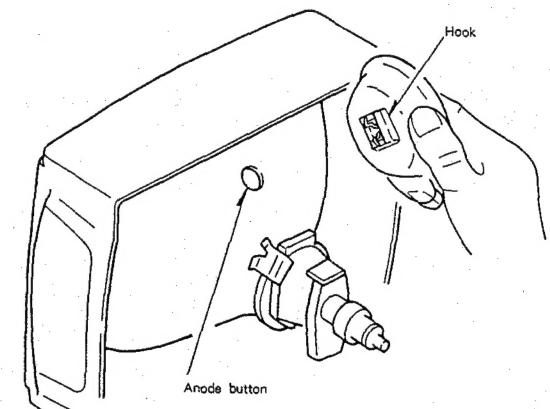

Fig. 5-2
- (6) Apply the hook on one side to the anode button as shown in the figure. (See Figure 5-2)